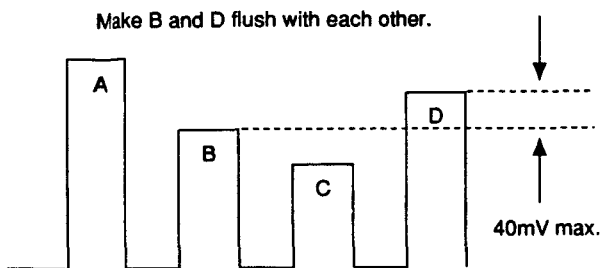

Fig. 5-27
- 2) Connect the probe of an oscilloscope to IC404 ⑩ PIN or TP402.
- 4) Adjust **[CHROMA PAL NOR]** so that the peaks of waveforms will be flush with each other. (Fig.5-27)
- 2) Adjust **[CHROMA PAL ACC OFF]** in the same way as 10-15-4).(Fig.5-27)